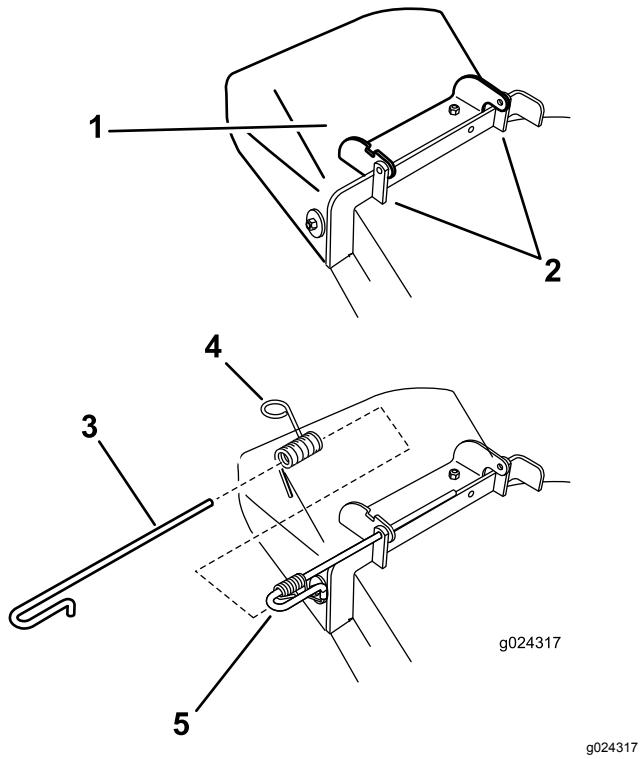

Figure 70
1. Disengage the spring from the notch in the deflector bracket and slide the rod out of the welded deck brackets, spring, and discharge deflector (Figure 70).
3. Position the new discharge deflector assembly with the bracket ends between the welded brackets on the deck as shown in Figure 70.
4. Install the spring onto the straight end of the rod. Position the spring on the rod as shown in Figure 70 so the shorter spring end is coming from under the rod before the bend and going over the rod as it returns from the bend.